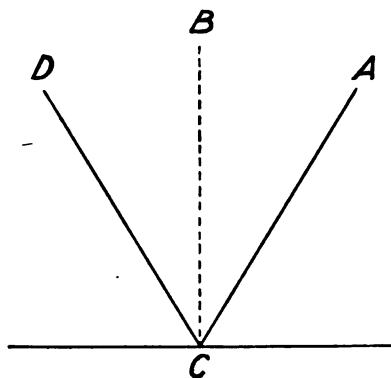

FIG. 60. — The ray AC is reflected as CD .
The ray (AC , Fig. 60) which falls upon the mirror is called the incident ray, and the angle which the incident ray (AC) makes with the perpendicular (BC) to the mirror, at the point where the ray strikes the mirror, is called the angle of incidence. The angle formed by the reflected ray (CD) and this same per-